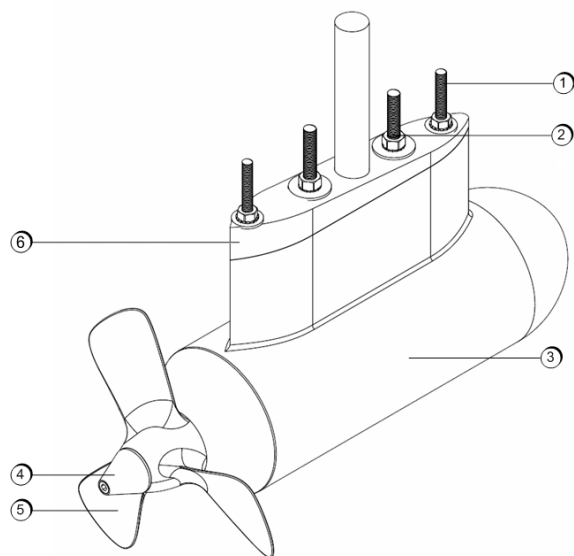

Figure 8: The PodMaster motor
1. A sufficiently reinforced hull section needs to be prepared to mount the motor to, using the 2 M10 and 2 M12 bolts as indicated in Figure 8 (dimensions are given in Chapter 8.2)